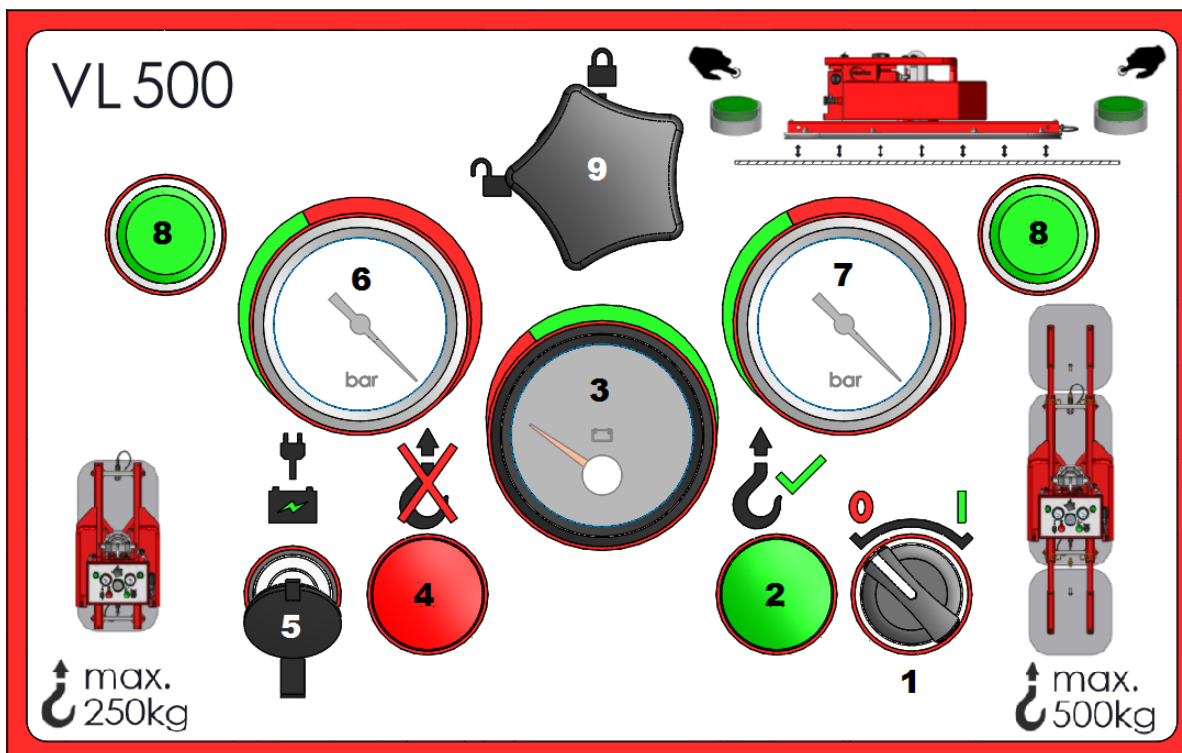

Figure: 9
- Check that the main switch is in the ( 0 ) position (see figure 9).
- Check the operation of the two green buttons ( 8 in figure 9) of the vacuum circuit.
- Switch on the vacuum lifter by placing the main switch in position ( 1 ) (see figure 9).
- Operate both push buttons ( 8 ) (see figure 9) at the same time to switch on the vacuum.
- The vacuum can now be switched off by once again pressing the buttons ( 8 ) (see figure 9).
- If the vacuum lifter will not be used for more than 15 minutes, it must be switched off by setting the main switch (see figure 9) to ( 0 ).